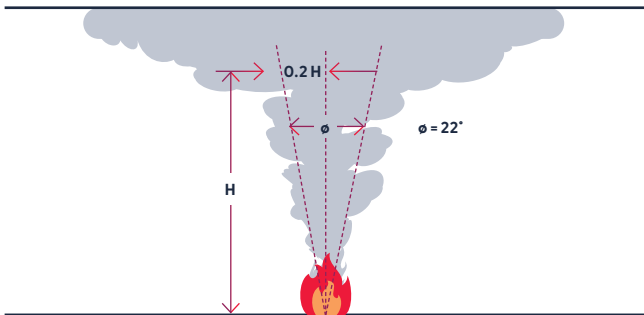

Figure A17.7.4.7.2: The plume divergence of an unconstrained fire
**Figure A17.7.4.7: Maximum distance at which ceiling suspended light Projector and Receiver/Reflector can be positioned from end wall is one quarter selected spacing ( $S$ )**